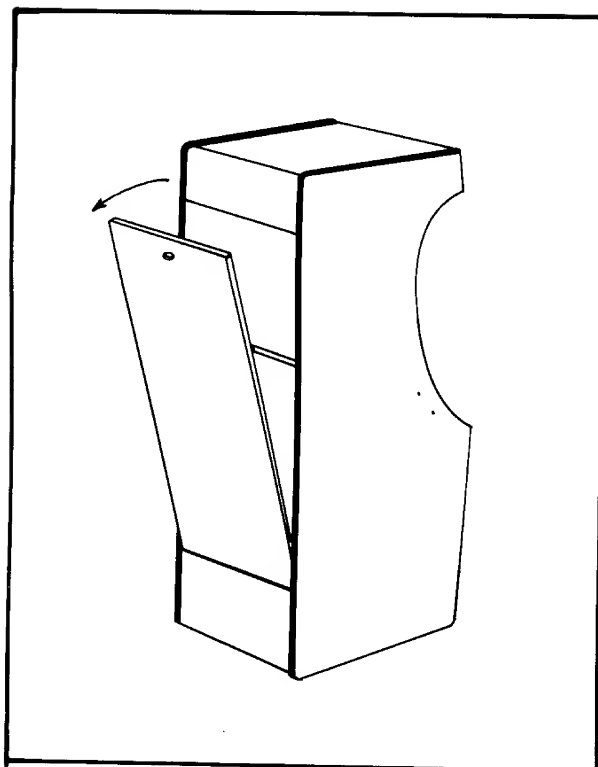

Figure 1-3 Rear Access Panel
- (a) Remove the rear access panel with the appropriate packaged key (refer to Figure 1-3).